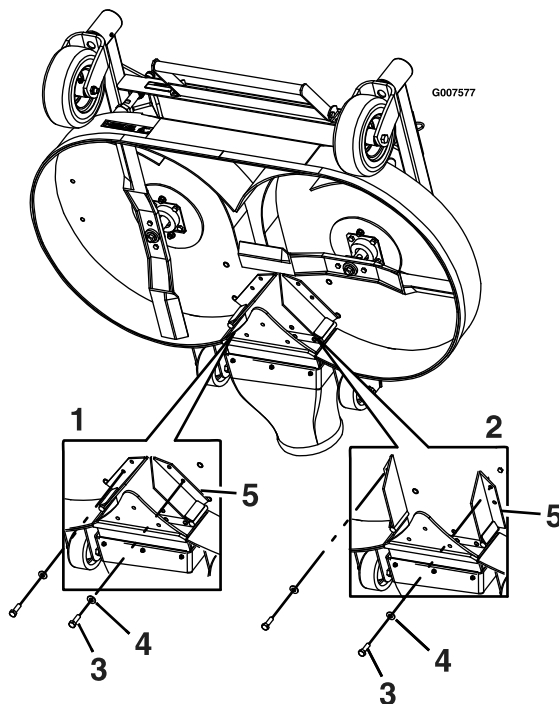

Figure 12
7. Remove the bolt and washer at the front of each FRS baffle (Figure 12).